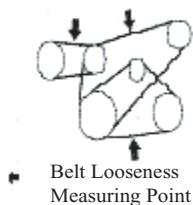

Figure 1
- Check the belt deflection at the specified point See (Figure 1).